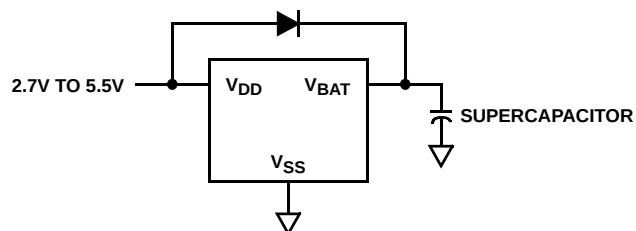

FIGURE 28. SUPERCAPACITOR CHARGING CIRCUIT
- Mode C - In this mode the selection bits indicate a low V_{DD} switchover combined with no communications in battery backup. Operation is actually identical to Mode A with I^2C communications down to $V_{DD} = V_{RESET}$, then no communications (see Figure 28).